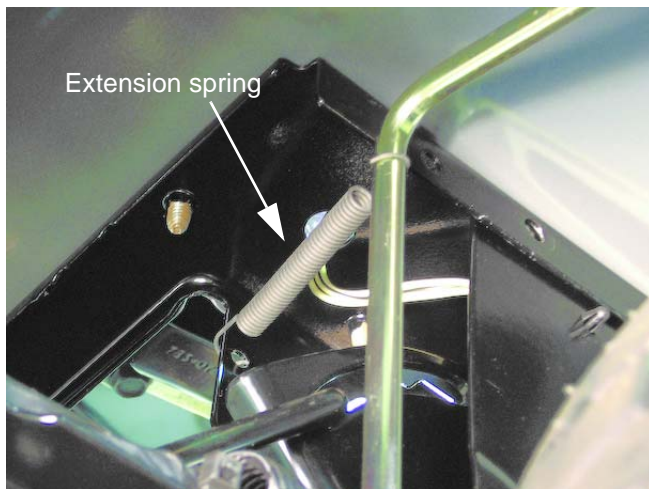

Figure 5.13
- A spring under the fender attached between the seat frame bracket and the shift lever keeps inward pressure on the selector to give it positive feel. See Figure 5.13.